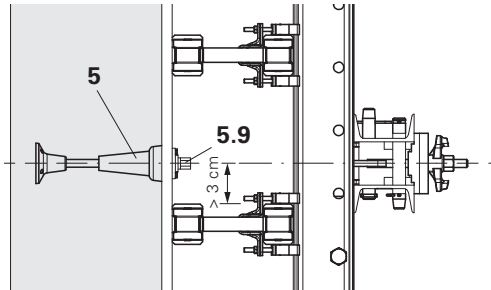

Fig. C1.05
During formwork design, attention must be paid that there is sufficient spacing between the bracket axis and the GT 24 formwork girder. Otherwise, mounting the Leading Anchor (5) with the Anchor Positioning Stud M24 (5.9) is not possible. (Fig. C1.05)